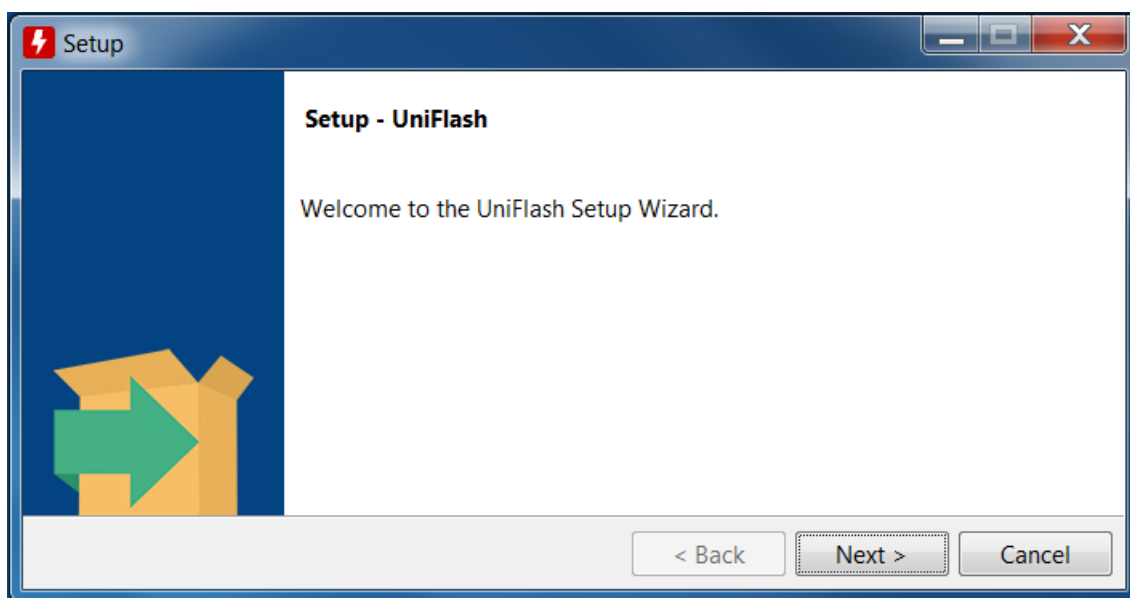

Figure 2-1. Install UniFlash
2. Run the installer by double-clicking on it. Click Next to continue, as shown in Figure 2-1.